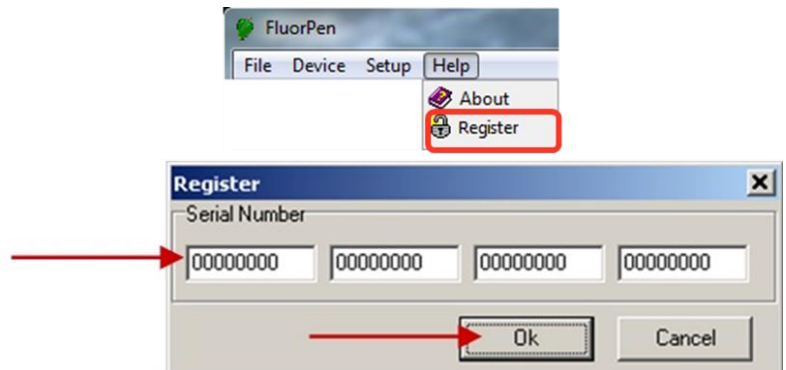

Fig. 11 Software registration.
2. To connect and recognize the PlantPen device in the FluorPen software, proceeds first with the registration of the FluorPen software (Fig. 11).